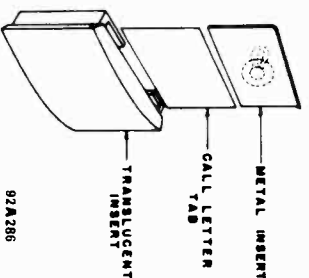

Fig. 3. Call letter installation.
1. Slide out metal insert from translucent button assembly. (See Fig. 3.)
6. Replace the translucent insert with the proper station call letters inserted as shown in Fig. 3.